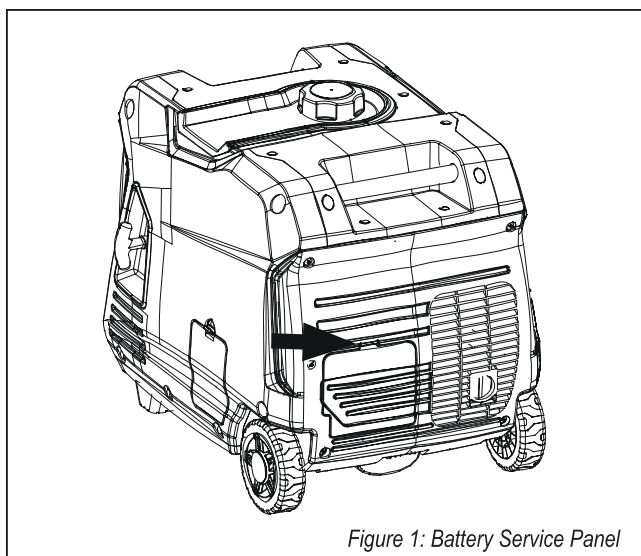

Figure 1: Battery Service Panel
1. Unclip the battery access panel on the back of the unit next to the muffler (see Figure 1).